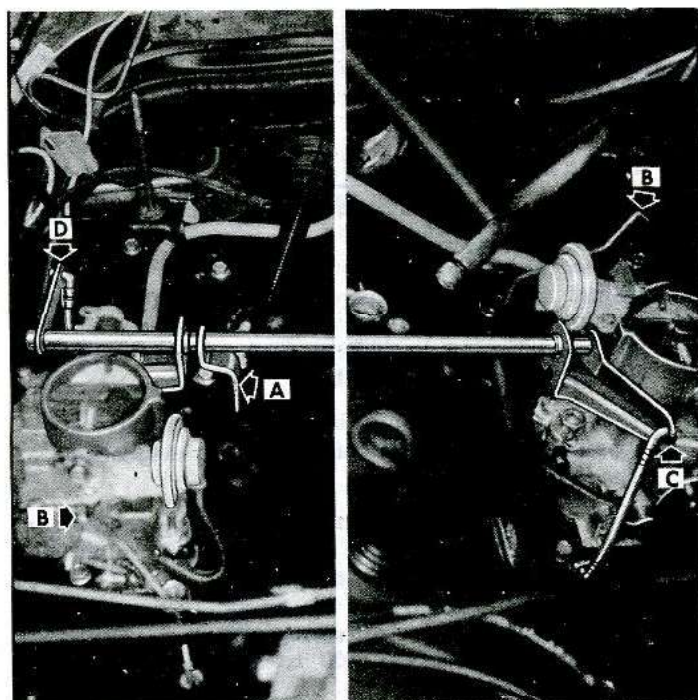

Fig. 6—Carburetor Linkage
1. Disconnect accelerator control rod swivel at cross shaft lever and connect accelerator pull back spring to swivel hole in cross shaft lever "A" (fig. 6).
2. Disconnect choke rods at choke shaft levers on both carburetors and open choke valves "B" (fig. 6), then tighten carburetor hold down nuts.
4. Disconnect throttle rod from cross shaft lever on R/H carburetor "C" (fig. 6).
6. Connect throttle rod to cross shaft lever on R/H carburetor and disconnect throttle rod from cross shaft lever on L/H carburetor "D" (fig. 6).